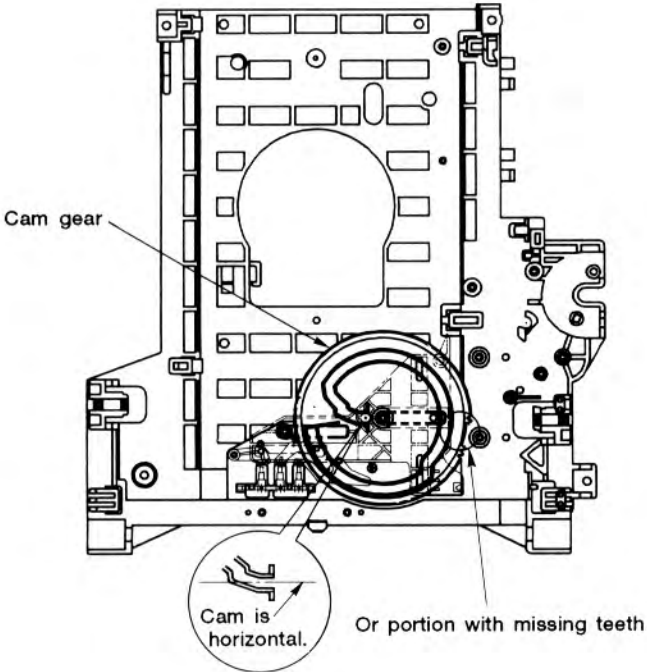

Fig. 2-10
- Slightly turn the cam gear ③ in a counterclockwise direction until the cam gear reaches the position shown in Fig. 2-10.